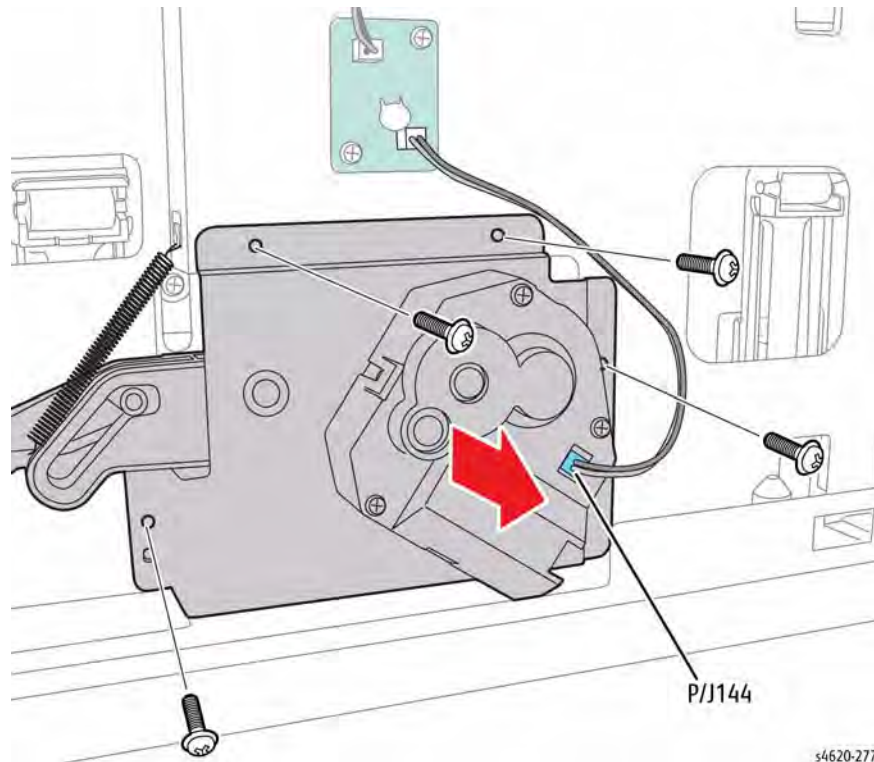

Figure 1 Remove the Lift Motor Assembly
4. Disconnect the motor and remove 4 screws (metal) that secure the assembly to the chassis, Figure 1.